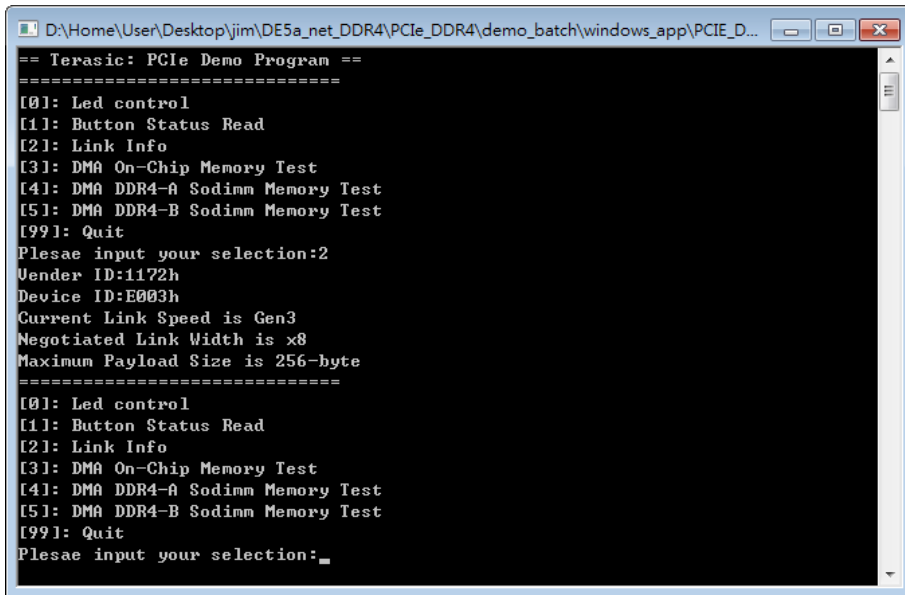

Figure 7-17 Screenshot of Link Info
- Type 2 followed by a ENTER key to select Link Info item. The PCIe link information will be shown as in **Figure 7-17**. Gen3 link speed and x8 link width are expected.